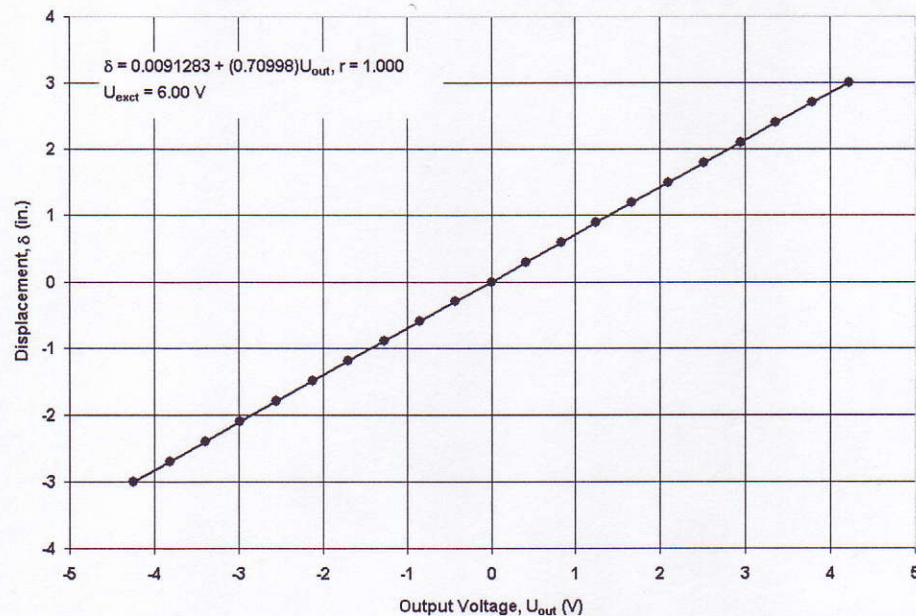

Fig. 11 An example of calibration data for ± 3.0 in. DC-DC LVDT.
- Plot the calibration data in the displacement-voltage coordinates. Using the least square linear regression method, determine the equation $\delta = f(U_{out})$ where δ is the displacement (in.) and U_{out} is the output voltage (V) from the LVDT. An example of the calibration line is shown in Figure 11 where r is the correlation coefficient.